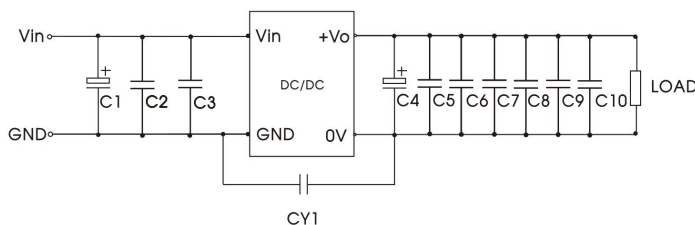

Fig. 3
- ① All index testing methods are obtained by add enhanced peripherals to the product (see Fig.3), otherwise the product may not work properly;
- ② Exceeding the maximum input voltage may cause permanent damage.
① Output voltage accuracy for 0%-5% load is ±5% max;
② Load regulation for 0% -100% load increases to ±3%;
③ The Transient Response Deviation test using the peripheral circuit recommended in Fig.3;
④ The "parallel cable" method is used for Ripple and Noise test, and the peripheral circuit recommended in Fig.3, please refer to DC-DC Converter Application Notes for specific information.
All DC-DC converters of this series are tested before delivery using the recommended circuit shown in Fig. 3.
C15	Refer to the Cout in Fig.3 C4
C16/C17	Refer to the Cout in Fig.3 C9, C10